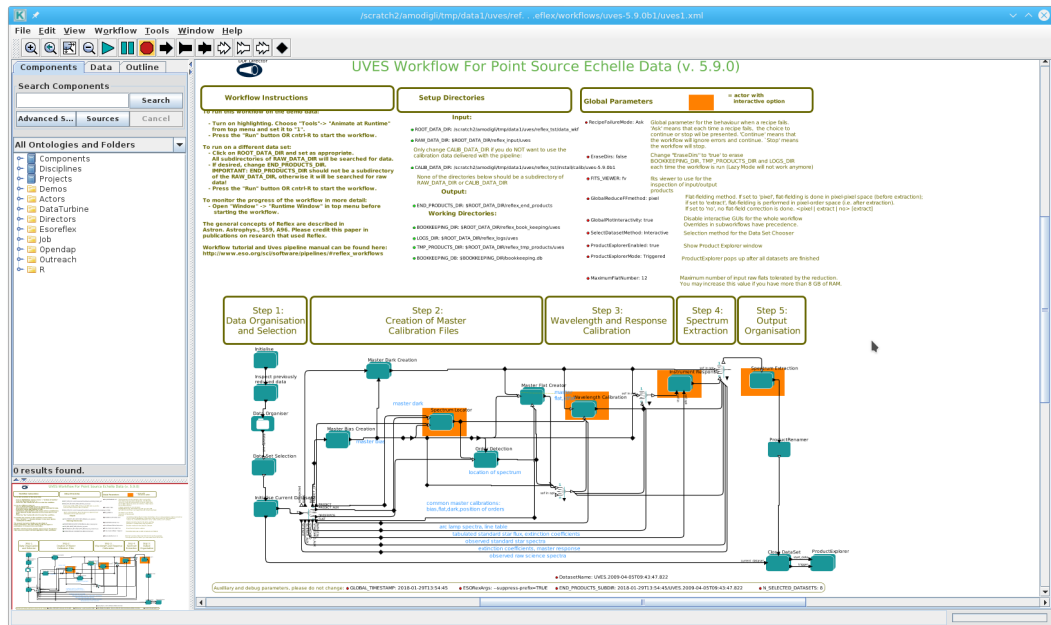

Figure 4.2: UVES workflow general layout.
2. Now open the UVES workflow by clicking on File -> Open File, selecting first `uves-5.9.0` and then the file `uves.xml` in the file browser. You will be presented with the workflow canvas shown in Figure 4.2. Note that the workflow will appear as a canvas in a new window.